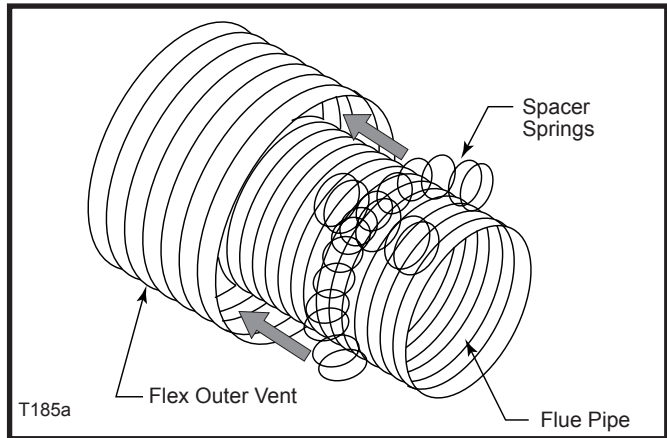
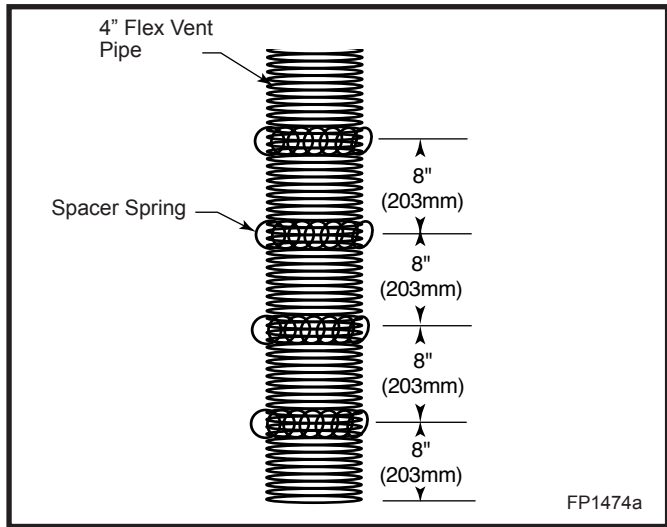

Fig. 30 Wrap spacer spring around flex flue pipe, overlapping ends.
Fig. 31 Install spacer springs.
Install the four (4) spacer springs on the 4" flex vent pipe. When installing the spacer springs around the 4" pipe, stretch the spring to approximately 15" (381 mm), wrap the spring around the pipe and interlock the ends of the spacer spring approximately 2" (51 mm). (Fig. 30) Measure 8" (203 mm) from the end of the pipe. Place the next spring 8" (203 mm) from the previously installed spring. Place the next spring approximately 8" (203 mm) from the last spring. Finally place the last spring approximately 8" (203 mm) from the last spring installed. (Fig. 31) Maintain equal spacing between spacer springs.